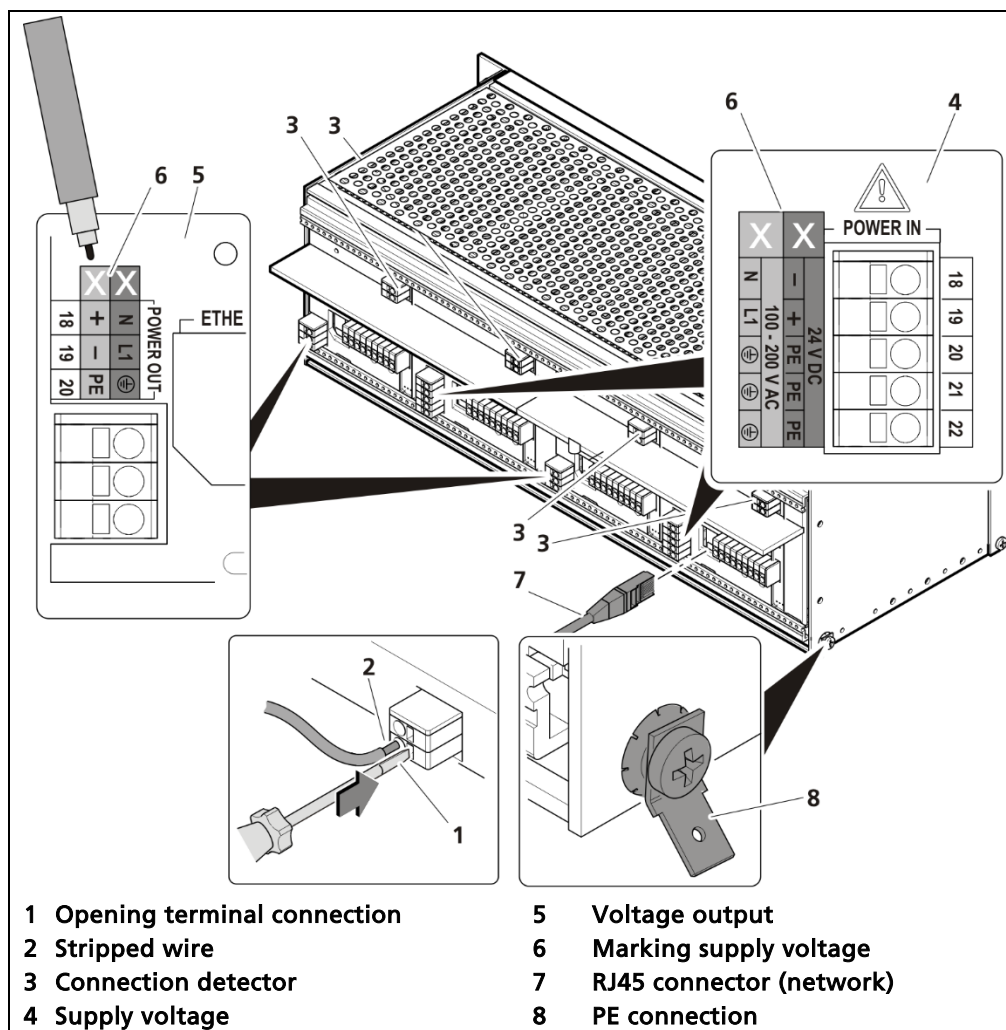

Fig. 21 Electrical connection in the 19" subrack
Prior to initial start-up, the voltage range (Fig. 21, item 8) must be marked with chemical resistance on all input and output terminals!
The terminal board master/slave is used twice (Fig. 21, item 2) for the variant to install 2 master EVUs and 6 slave modules.
The terminal board master/master (Fig. 21, item 1) is used twice for the variant to install 4 master EVUs.
Apply the voltage of the specified and marked (Fig. 21, item 6) range only!
- Label the voltage range permanently and chemically (Fig. 21, item 6).
- Open the terminal connection (Fig. 21, item 1) with an operating tool (slot-ted screwdriver) and insert the stripped wire (min. 8 mm) (Fig. 21, item 2). The terminal connection closes by pulling out the operating tool. The terminal connections are designed for the flexible wires:
- Plug the network plug into the RJ45 socket (Fig. 21, item 7) (optional).
- Check the correct connection of the PE conductor (Fig. 21, item 8).